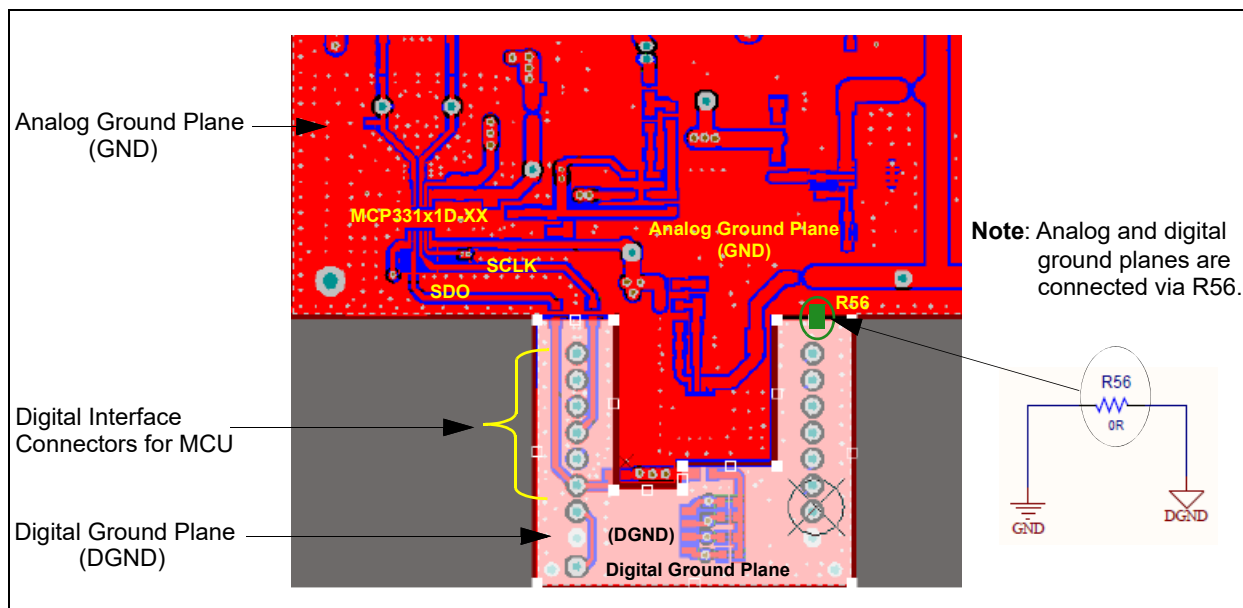

FIGURE 9-2: PCB Layout Example: Analog and Digital Ground Planes.
- Connect the analog and digital ground planes at a single point (away from the sensitive analog sections) with a 0Ω resistor or with a ferrite bead. See Figure 9-2 as an example of separated ground planes.
Figure 9-2 and Figure 9-3 show brief examples of the PCB layout. See more details of the schematics and PCB layout in the MCP331X1X-025 Evaluation Board User's Guide.